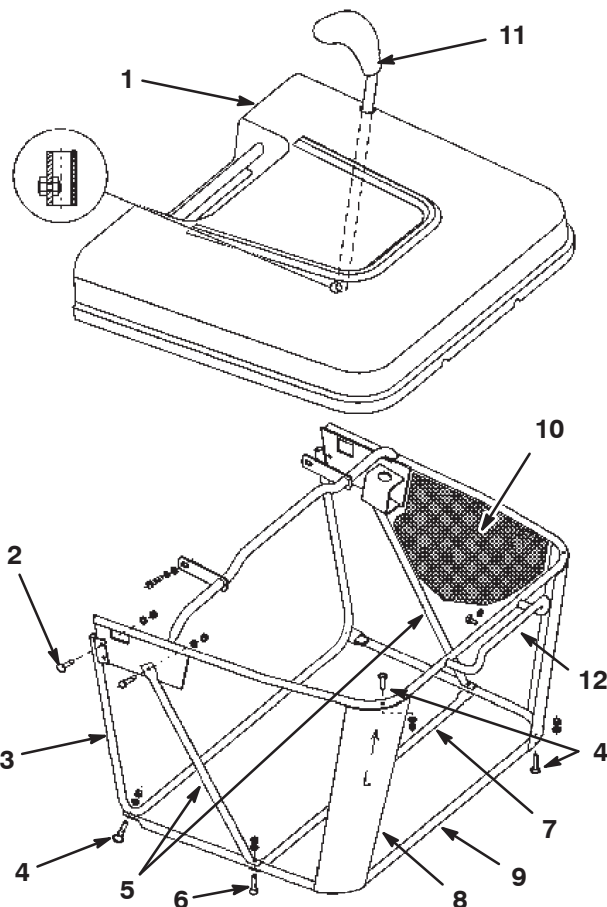

Figure 4
2. Align the upper holes with the holes on the upper tube. Loosely fasten the tubes together with the upper bolts (Fig. 4).
4. Tighten the upper bolts (Fig. 4).
5. Stretch the bag and put it over the rear handle (Fig. 4).
6. Insert the bottom tube into the bag (Fig. 4).
8. Fasten the corner supports to the top and bottom tubes using the M5 bolts and nuts from under the collector cover (Fig. 4).
9. Fasten the bottom tube to the front tube with M5 bolts and nuts (Fig. 4).
11. Place the lower brace on the outside of the bag and secure it to the left and right supports with the screws (Fig. 4).
18. Insert the dumping lever through the hole of the cover and secure it with the M5 x 12 screw and M5 nut (inside the tube) (Fig. 4).